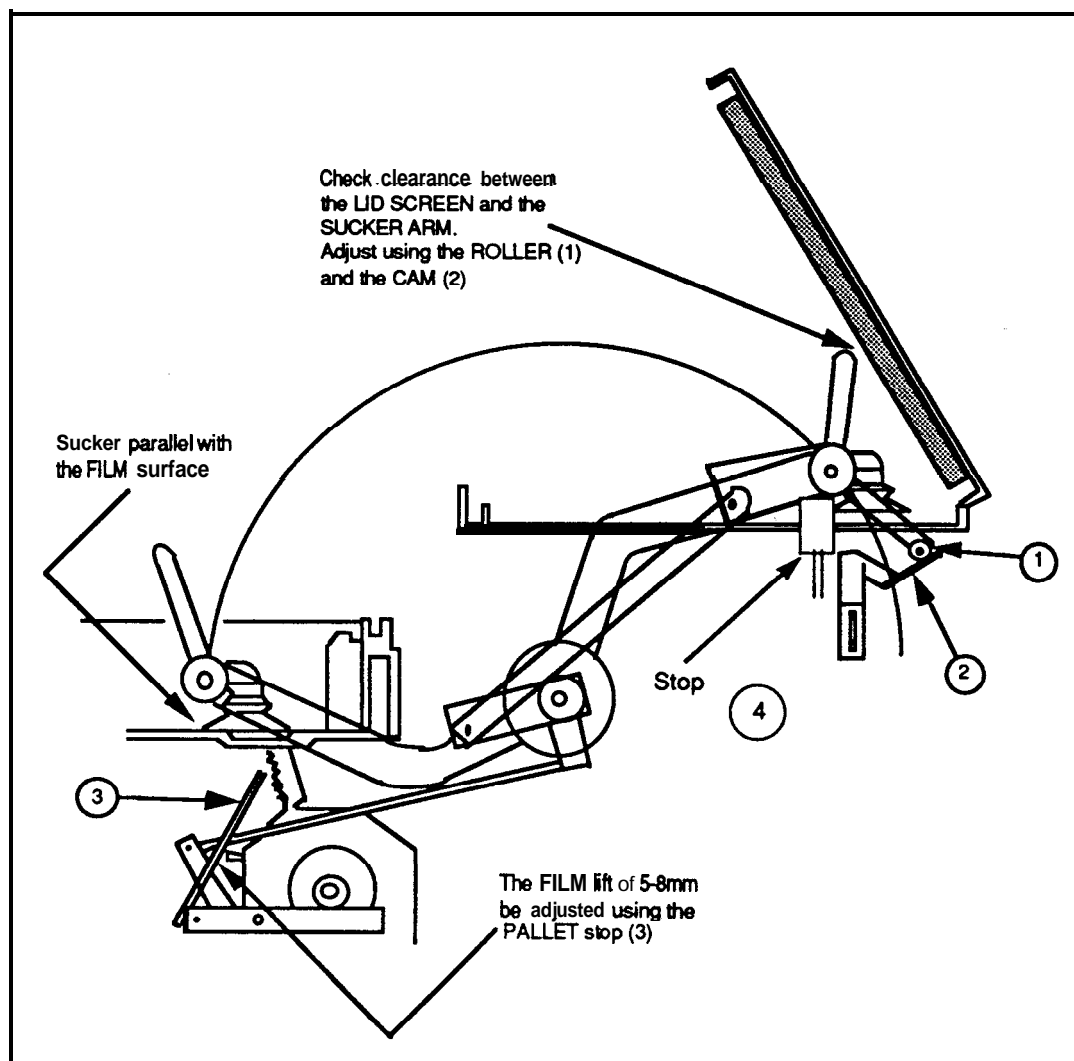

Figure 9
- 3 Turn the CAM on the tilt motor by hand until the SUCKERS are 5 to 8mm above the top of the FILM stack. The LIFTING TOOTH (3 on **Figure 9**, page SM18) should engage in the RATCHET at approximately the eighth or ninth tooth down from the top. Adjust the STOP up or down if necessary to achieve this.
- 3 Slacken off the STOP (4 in **fig 9** page SM 18). Run some cycles and adjust the CAM (2 in fig 9) to obtain correct entry of the FILM into the CASSETTE. If necessary also adjust the length of either of the PUSH RODS. The FILM should be "tucked into" the HINGE of the CASSETTE without catching the BASE of the CASSETTE or the SCREEN. The FILM should not stub against the HINGE and the SUCKER BAR must not catch the SCREEN. When the FILM is being entered correctly into the CASSETTE, set the STOP so the SUCKER BAR presses against it with a force of 0.5 to 1 kg.